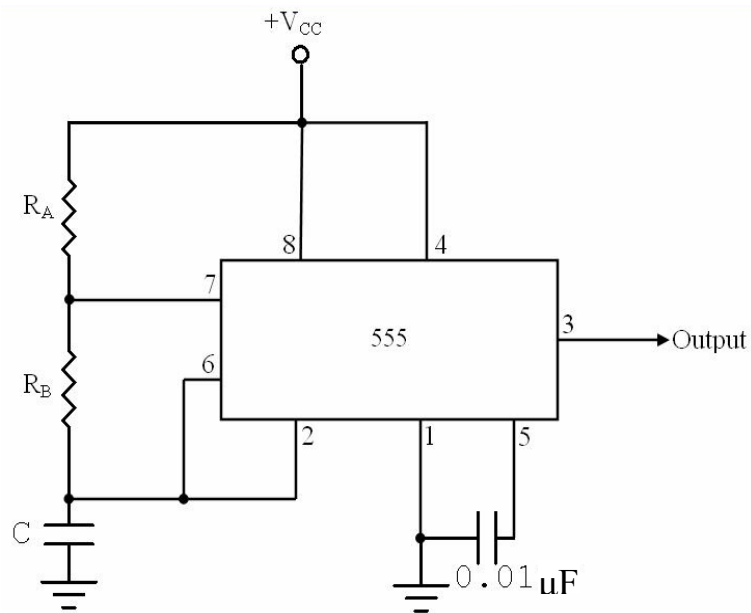
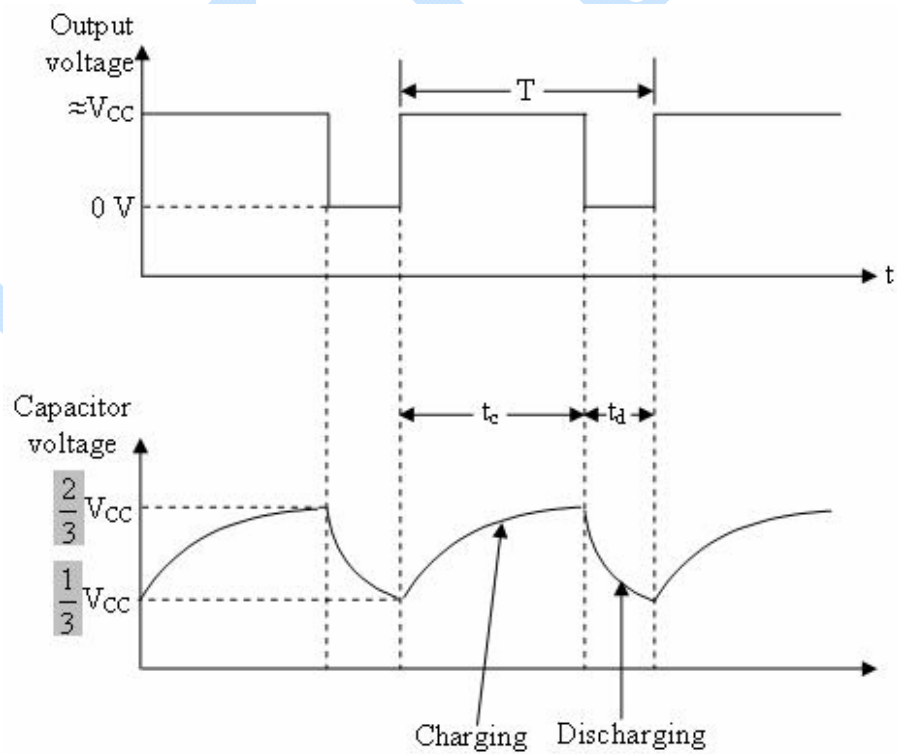

Figure 4: Circuit diagram for Astable Multivibrator
Figure 5: Output voltage waveforms
Pin 5: **Control Voltage**: An external voltage may be applied to this terminal to change the threshold as well as the trigger voltage. The pulse width of the output waveform is hence dependent on it. When not in use, the control pin should be bypassed to ground with a 0.01 μF capacitor (refer to Figures 4, 6 and 7) to prevent any noise problems.
Figure 4 shows 555 timer connected as an astable multivibrator. Pin 5 is bypassed to ground through a $0.01\ \mu\text{F}$ capacitor. The power supply ($+V_{CC}$) is connected to common of pin 4 and pin 8 and pin 1 is grounded. If the output is high initially, capacitor C starts charging towards V_{CC} through R_A and R_B . As soon as the voltage across the capacitor becomes equal to $\frac{2}{3}V_{CC}$, the upper comparator triggers the flip-flop, and the output becomes low. The capacitor now starts discharging through R_B and transistor Q_1 . When the voltage across the capacitor becomes $\frac{1}{3}V_{CC}$, the output of the lower comparator triggers the flip-flop, and the output becomes high. The cycle then repeats. The output voltage and capacitor voltage waveforms are shown in Figure 5.
As can be seen from the Figure 5, the capacitor voltage waveform is an exponentially rising and falling waveform between $\frac{2}{3}V_{CC}$ and $\frac{1}{3}V_{CC}$ which represents periodic charging and discharging of the capacitor between $\frac{2}{3}V_{CC}$ and $\frac{1}{3}V_{CC}$. The time during which the capacitor charges from $\frac{1}{3}V_{CC}$ to $\frac{2}{3}V_{CC}$ is equal to the time the output is high and is given by
- Connect the circuit as shown in Figure 4 with the calculated values of R_A , R_B and C for 75% duty cycle.